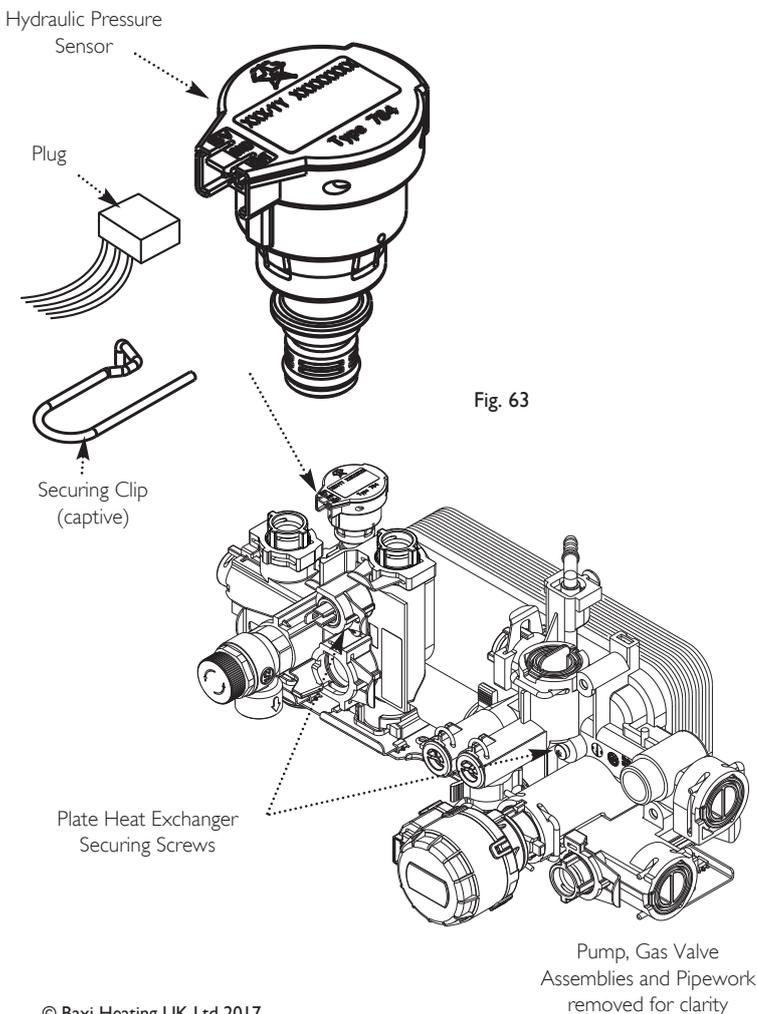

Fig. 63
13.15 Hydraulic Pressure Sensor (Fig. 63)